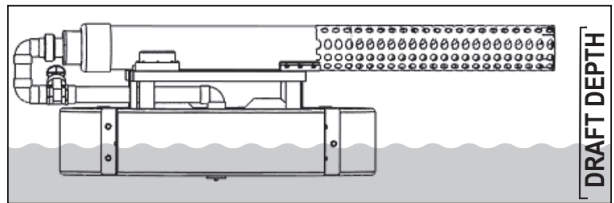

Fig.2
- Place fountain into water, making sure that unit remains **INVERTED**. (Fig.2)
- Measure the draft depth of the system from bottom of intake screen to top of float. (Fig.2)